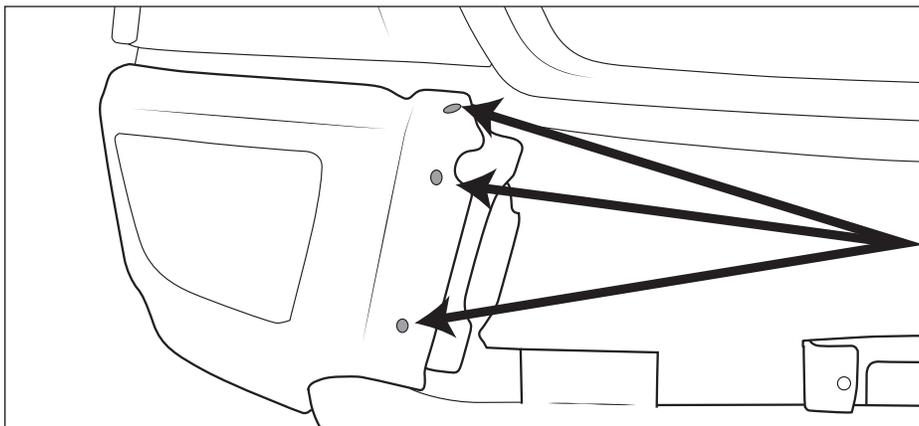

Figure 14
8. Remove the 6 torx head bolts from the corners to install the center section (fig. 14).